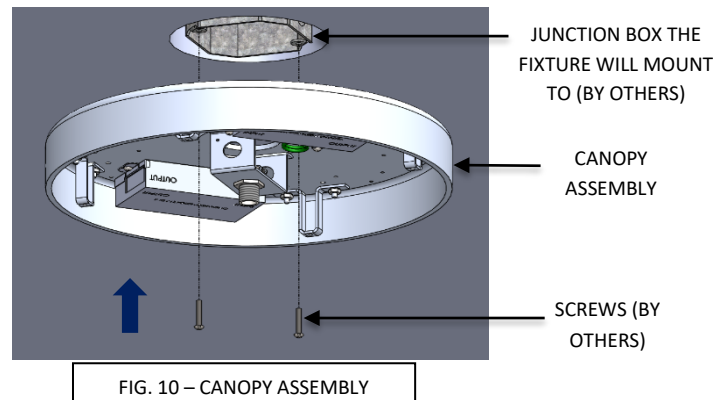

FIG. 10 - CANOPY ASSEMBLY
2. Assemble the CANOPY ASSEMBLY to the JUNCTION BOX (by others) with screws (by others) at the center of the non-powered mounting points as shown in FIG. 10 below.